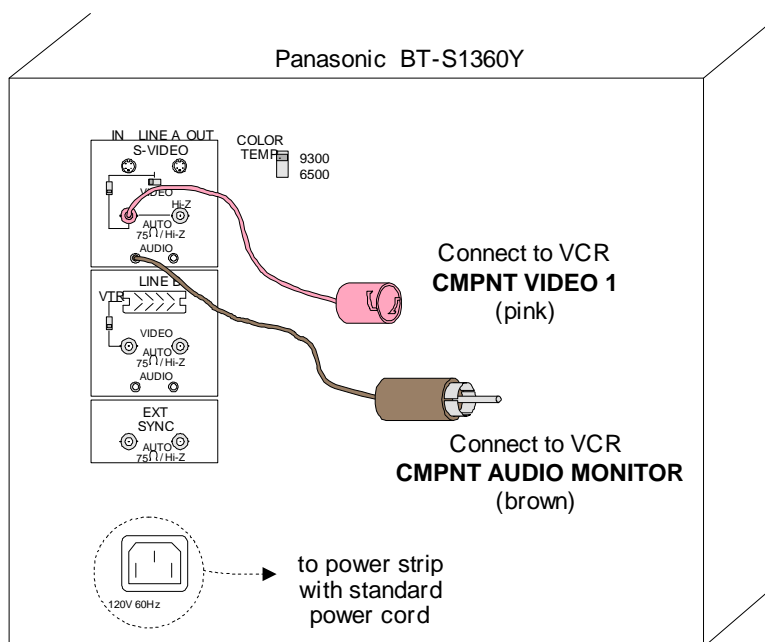

Figure 13
27. Now connect the other end of the RCA patch cord to the LINE A, AUDIO IN jack on the back of the monitor (see **Figure 13** [brown]).
28. Attach a BNC patch cord to the LINE A, VIDEO IN jack on the back of the monitor (see **Figure 13** [pink]).